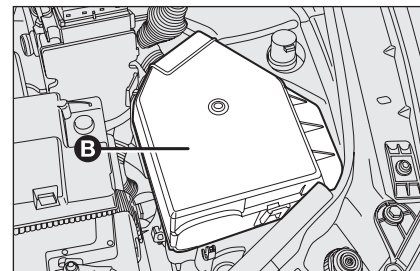

fig. 18
**IMPORTANT** Remove the engine compartment fusebox **B-fig. 18** to access the left headlights cover (in direction of travel) for replacement.